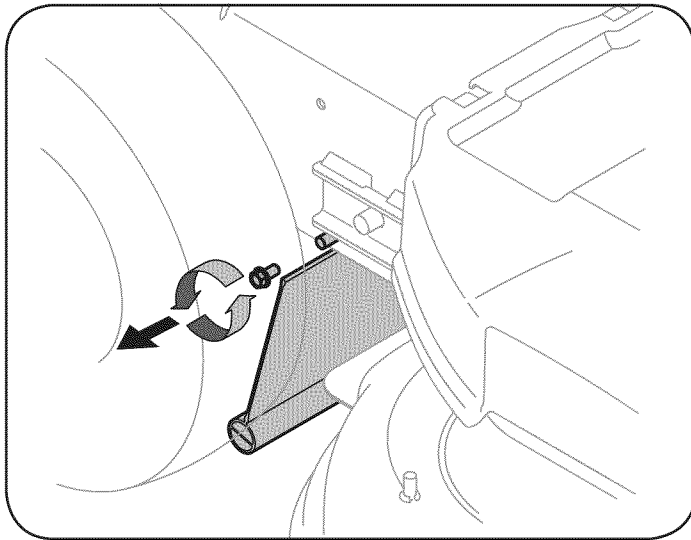

Figure 29
1. Remove the screw which secures the trail shield to the right side of the mower. See Figure 29.